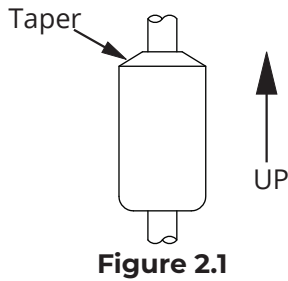

Figure 2.1
- The float(s) is/are oriented properly on the stem (See Figure 2.1). MPX-R and MPX-T floats are typically installed by customer.